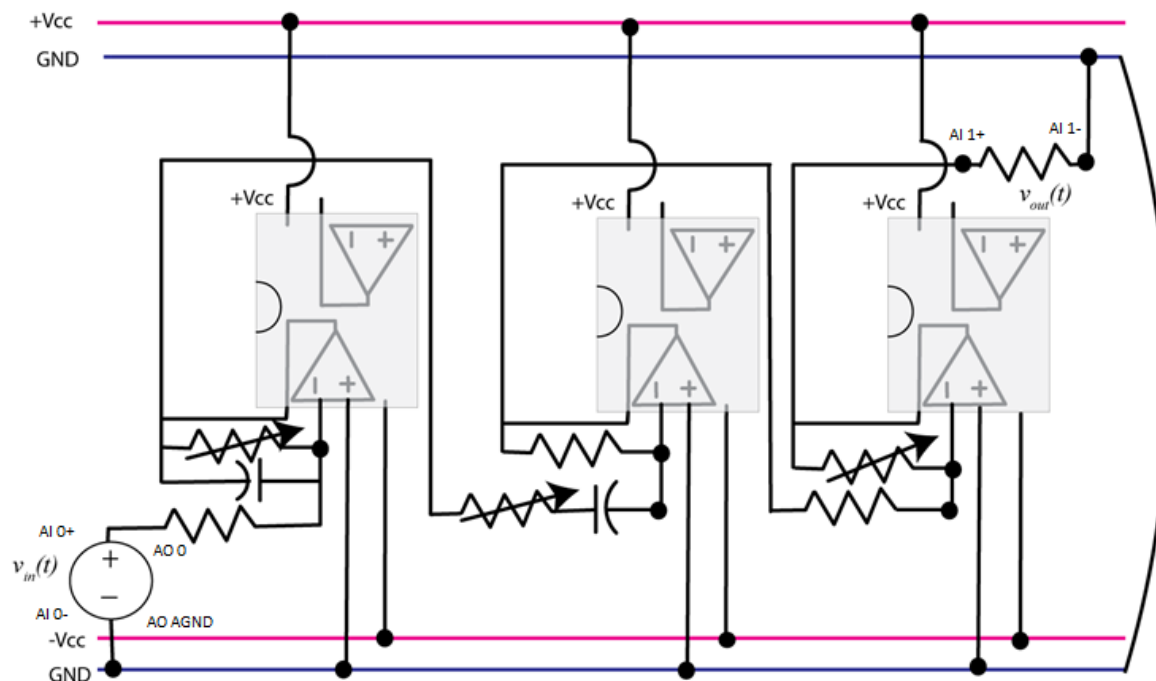

Figure 12: Broadband Active Bandpass filter
1. Now you will use 2 wires to connect all of the of the subsystems together as shown in Figure 12.